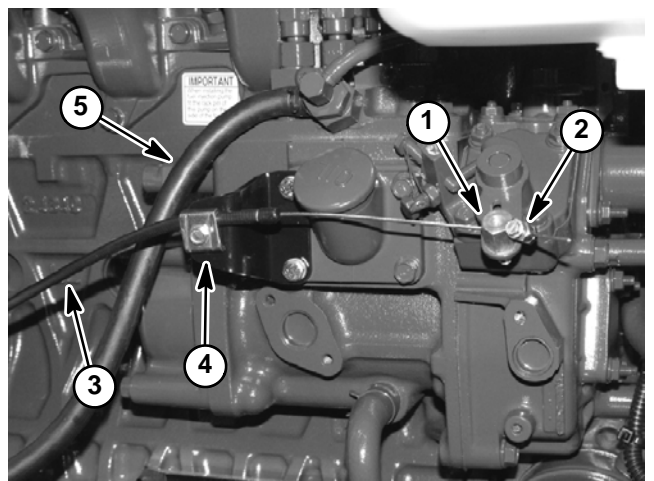

Figure 13
8. Disconnect fuel supply hose from injection pump (Fig. 13).
9. Remove throttle cable from engine (Figs. 13 and 14):
B. Secure fan motor bracket to radiator with six (6) cap screws and flange nuts.
9. Connect throttle cable to injector pump (Figs. 13 and 14):
10. Connect fuel line to the injection pump (Fig. 13).